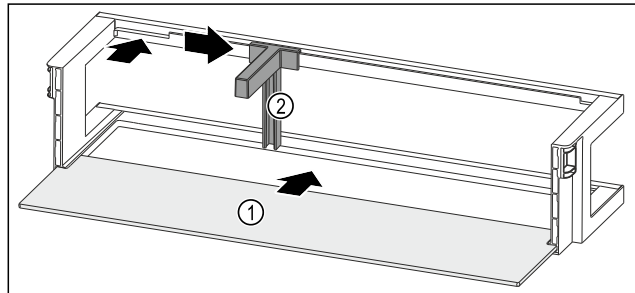

Fig. 190 Door rack with shelf
- ▶ Push the shelf Fig. 190 (1) into the side recesses.
- ▶ Insert the bottle holder Fig. 190 (2) in the recess.
- ▶ Push the bottle holder Fig. 190 (2) to the desired position to the side.